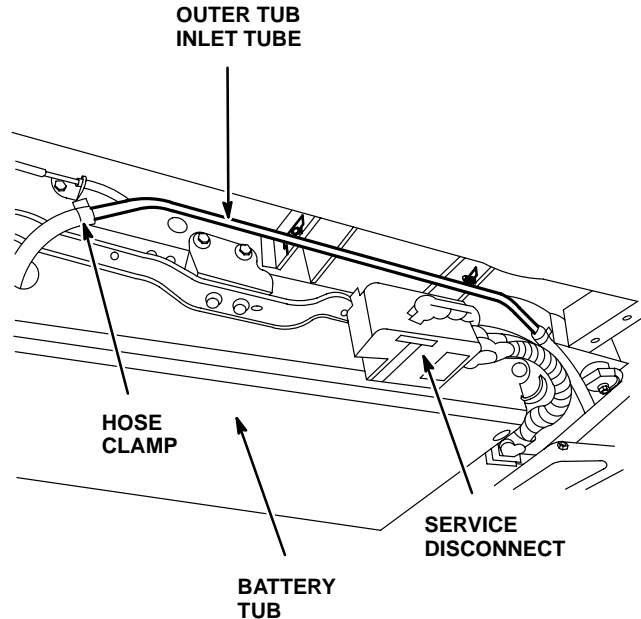

Fig. 18 Outer Tub Inlet Tube
- (12) Disconnect right side coolant hose from outer tub inlet tube and connect regulator to hose (fig. 18).